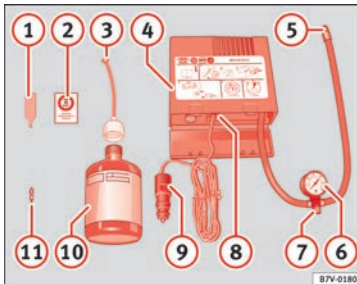

Fig. 67 Standard representation: contents of the anti-puncture kit.
- Unscrew the tyre valve cap and insert. Use the » Fig. 67 ① tool to remove the insert. Place it on a clean surface.
- Shake the tyre sealant bottle vigorously » Fig. 67 ⑩.
- Screw the inflator tube » Fig. 67 ③ into the sealant bottle. The bottle's seal will break automatically.
- Remove the lid from the filling tube » Fig. 67 ③ and screw the open end of the tube into the tyre valve.
- Place the insert back into the tyre valve using the tool » Fig. 67 ①.
- Screw the compressor tyre inflator tube » Fig. 67 ⑤ into the tyre valve.
- Check that the air bleed screw is closed » Fig. 67 ⑦.
- Insert the connector » Fig. 67 ⑨ into the vehicle's 12-volt socket » page 150.
- Turn the air compressor on with the ON/OFF switch » Fig. 67 ⑧.